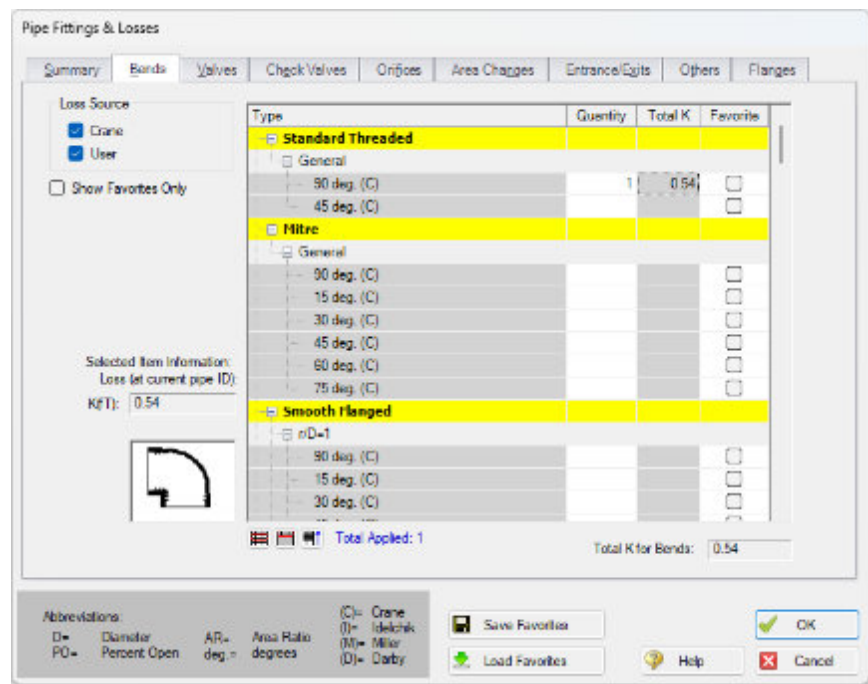

Figure 4.5 Add Fittings & Losses to pipes by specifying fitting quantities on the Pipe Fittings & Losses window
Go to the Bends tab and under Standard Threaded, General, 90 deg. (C), enter a quantity of 1 (Figure 4.5). Click the OK button to add this loss to the pipe, then repeat for Pipes P4-P6. Global pipe editing could also be used to make this change to all four pipes simultaneously.